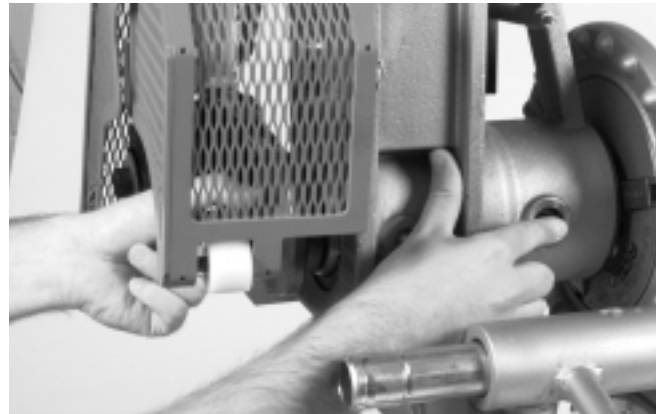
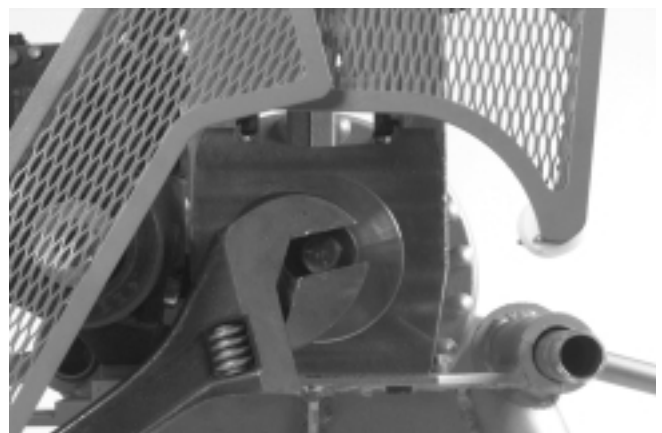

Figure 20 – Engaging Lock Pin and Removing Drive Roll
Figure 21 – Loosening The $\frac{5}{8}$ " Draw Bolt
5. Engage the locking pin in the drive shaft by manually spinning the drive shaft (*Figure 20*). Loosen the $\frac{5}{8}$ draw bolt ($\frac{15}{16}$ hex) (*Figure 21*) and remove the drive roll.